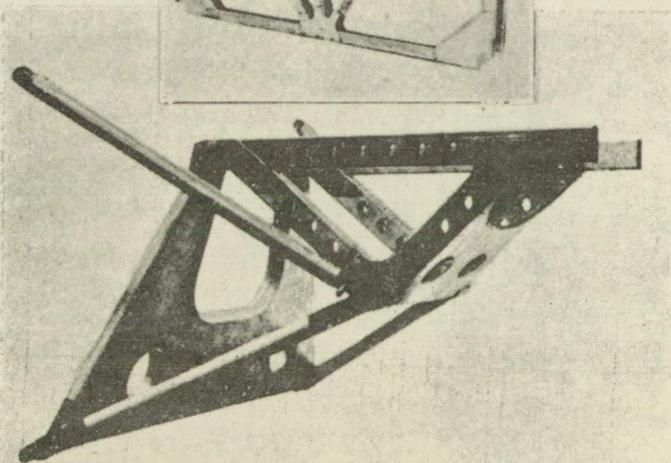

Fig. 4
a) Power plant.— The engine mount (Fig. 4) is joined to the central section of the fuselage by four bolts. It consists of two V members of drawn rectangular tubing, supported by tubular duralumin diagonals. Transverse rigidity is obtained by two frames — one at the front and the other at the rear.